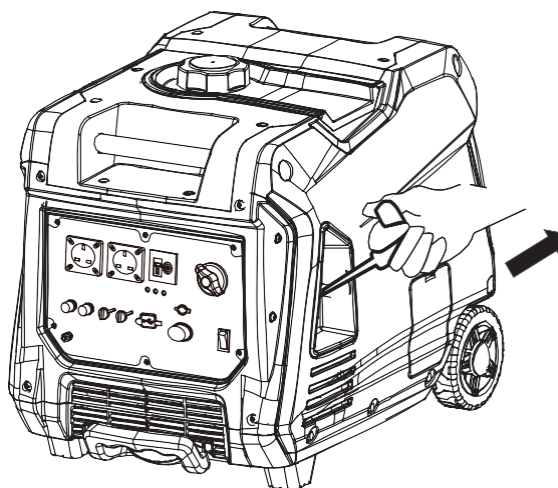

Figure 9: Pull the Recoil Handle out from Inverter
20. Firmly grasp and pull the recoil handle slowly until you feel increased resistance. At this point, apply a rapid pull while pulling out from the inverter (see Figure 9).